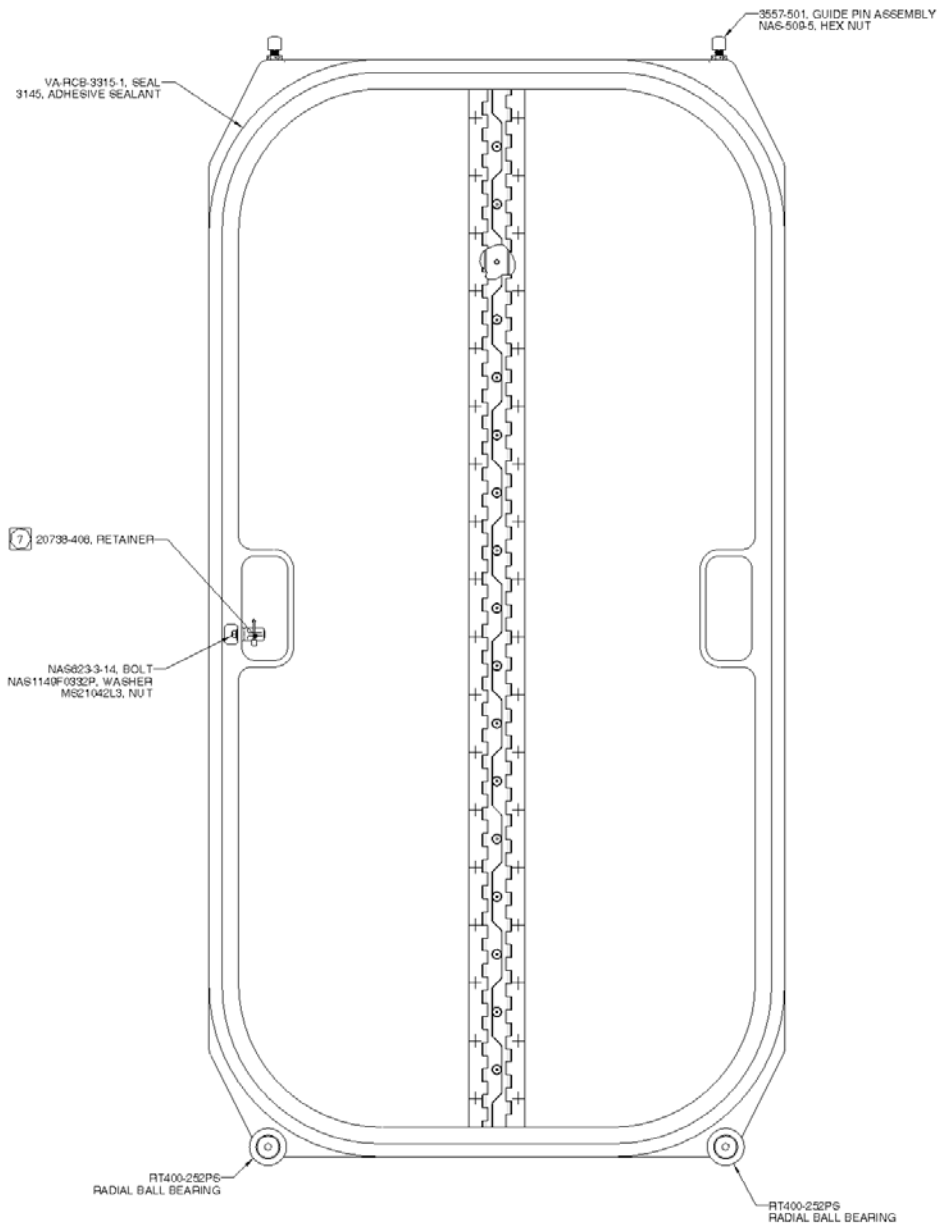

FIGURE 53-00-23-1: SLIDING DOOR ASSEMBLY REMOVED FROM AIRCRAFT
- (1) Remove sliding door from aircraft
- (2) Remove VA-RCB-3315-1 seal
- (3) Remove any existing adhesive residue
- (4) Apply Dow Corning 3145 RTV sealant to mating surface on the sliding door
- (5) Reinstall VA-RCB-3315-1 seal, splice at location shown in Figure 53-00-23-1
- (6) Reinstall sliding door in the aircraft
- (7) Perform operational check of door (53-00-32). Ensure door seals properly and that new seal does not impede door operation.